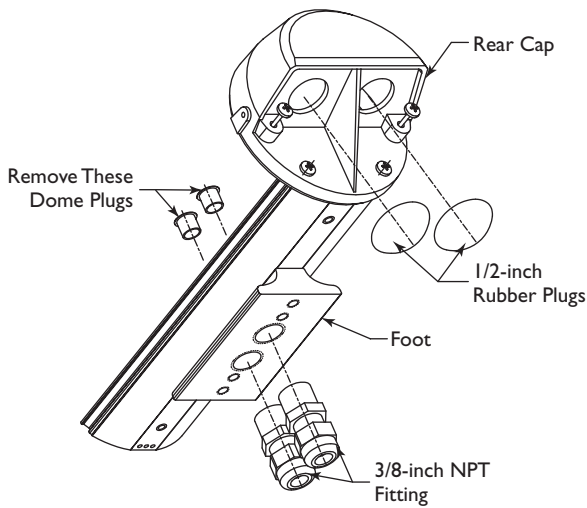

Figure 7: Feed-through Wiring
1. Prior to mounting the camera. Remove the two dome plugs located inside the housing. See **Figure 7**.